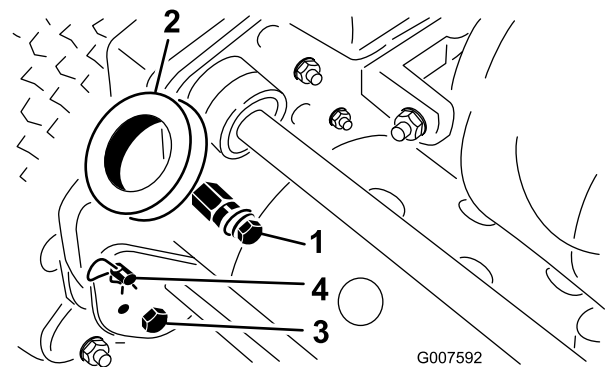

Figure 2
1. Remove the bolts and locknuts securing the bottom of the handle arms to each side of the mower (Figure 2).
2. Remove the hairpin cotters and ring pins securing the handle arms to the rear of the frame (Figure 2).
3. Insert the handle ends through the holes in the handle arms and align the holes with the mounting pins (Figure 2).
- Remove the hairpin cotters from the ring pins on each side of the mower (Figure 2).
- While supporting the handle, remove the ring pins from each side and raise or lower the handle to the desired operating position (Figure 2).